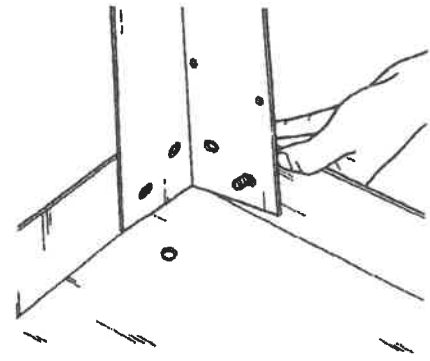
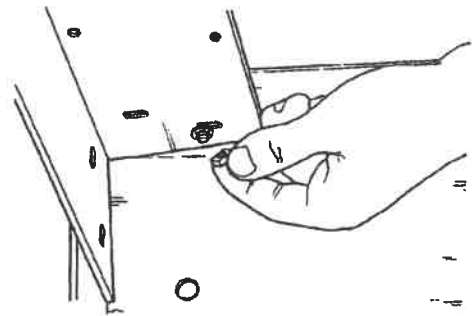

Fig. A-1
Fig. A-2
1. Place the base (1) upside down on a workbench or other convenient surface.
2. Place a leg (44) into position against an inside corner of the base.
3. Insert a truss head screw (45) through both an outside hole in the base and its corresponding hole in the leg, as in Fig. A-1. Secure the bolt with a lock washer (46) and square nut (47), as shown in Fig. A-2. Finger tighten.
4. Insert a truss head screw (45) into the opposite, outside hole in the base and its corresponding leg hole. Secure the bolt with a lock washer (46) and square nut (47). Finger tighten.